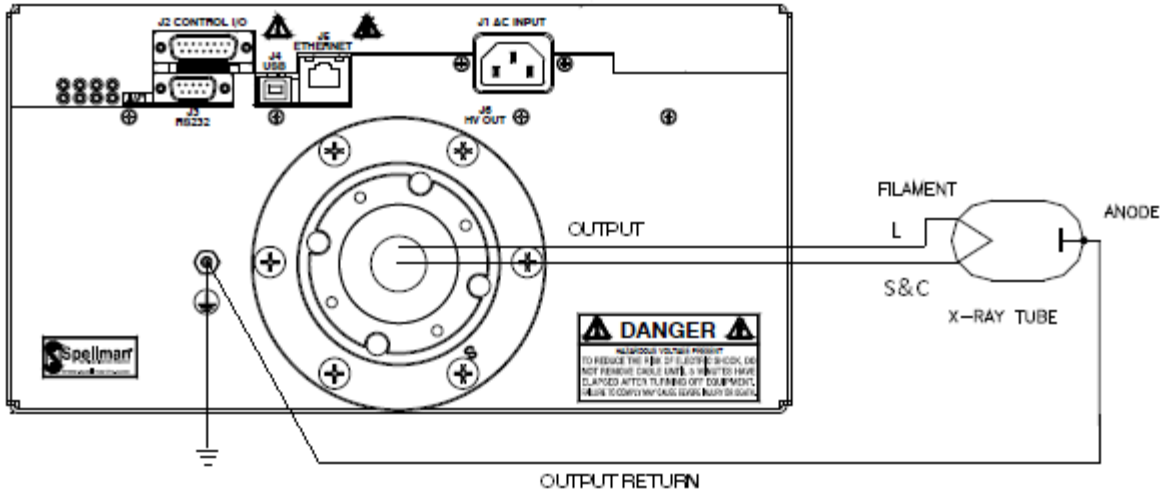

Figure 3.1 Proper Grounding Technique
C) **PROPER GROUNDING TECHNIQUE:** The chassis of high voltage power supplies must be grounded, preferably to a water system ground using copper pipe or other earth ground. A ground stud is provided on the front panel .See Figure 3.1 for a typical operating setup. The return line from the load should be connected to the power supply chassis. Using a separate external ground at the load is not recommended. An IEC 320 connector is provided for connection to the line voltage source. A standard line cord is also provided.